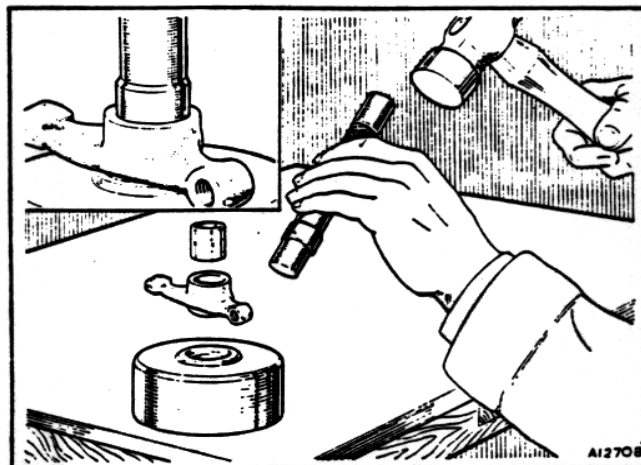

Fig. 1
5. Renew worn rocker bushes, using tool 18G 226 as shown in Fig. 1.